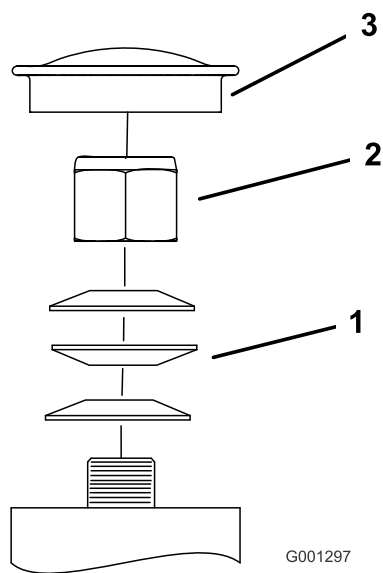
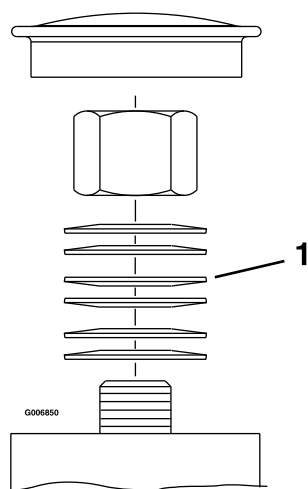

Figure 52
Figure 53
3. Remove the dust cap from the caster and tighten the locknut (Figure 52 and Figure 53).
4. Tighten the locknut until the spring washers are flat and then back off a 1/4 turn to properly set the pre-load on the bearings (Figure 52 and Figure 53).
Important: Make sure that the spring washers are installed correctly as shown in Figure 52 and Figure 53.